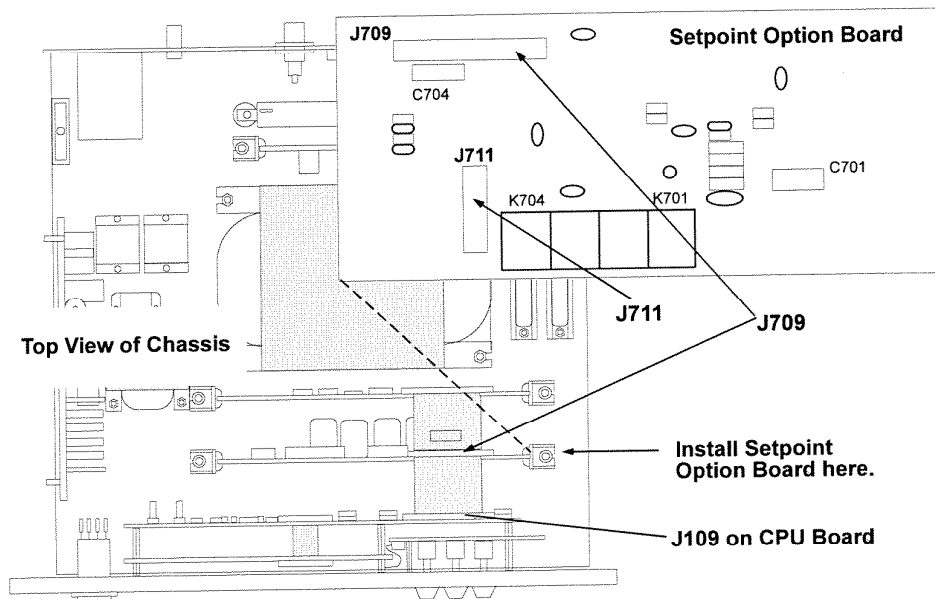

Figure 2-5. Installing the Setpoint Option Board
3. Plug the other end of the ribbon cable into J711 on the setpoint board (Figure 2-5), matching the arrows and positioning the cable with the colored stripe on top.
7. **Installing the Setpoint Option only.** Plug the 2-position, short ribbon cable into J109 on the CPU board and J709 on the setpoint board (Figure 2-5) with the colored stripe (pin 1) closest to the left side of the chassis when the rear panel is facing you.
Installing the Setpoint Option with the Computer Option. The longer 3-position ribbon cable connects J109 on the CPU board, J709 on setpoint board, and J809 on the computer interface board (Figure 2-5). Pin 1 should be closest to the left side of the chassis when the rear panel is facing you.